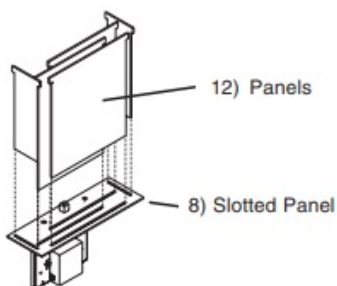
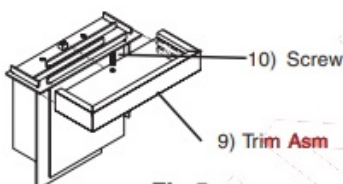
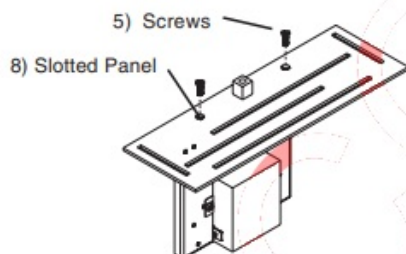

Fig 4
Fig 5
Fig 3
3. DLSD4- Align holes in Slotted Panel (8) with holes on top of mounting bracket and secure with Screws (5) as shown in Fig 3. Install panels as shown in Fig 4. Slide Trim Asm (9) onto slotted diffuser panel aligning holes and secure with Screw (10). See Fig 5.